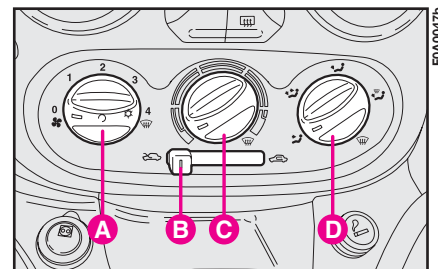

fig. 78
If the vehicle has a climate control system, you are recommended to adjust the controls as described above and press button **A-fig. 78** to speed up the demisting process.
CONTROLS fig. 78
IMPORTANT The manual climate control system is very useful for speeding up the demisting process because it dries the air. Simply adjust the controls for the demisting function (see previous section) and switch the manual climate control system on by pressing knob **A**-fig. 78.
5) Climate control system: press knob **C**-fig. 78.